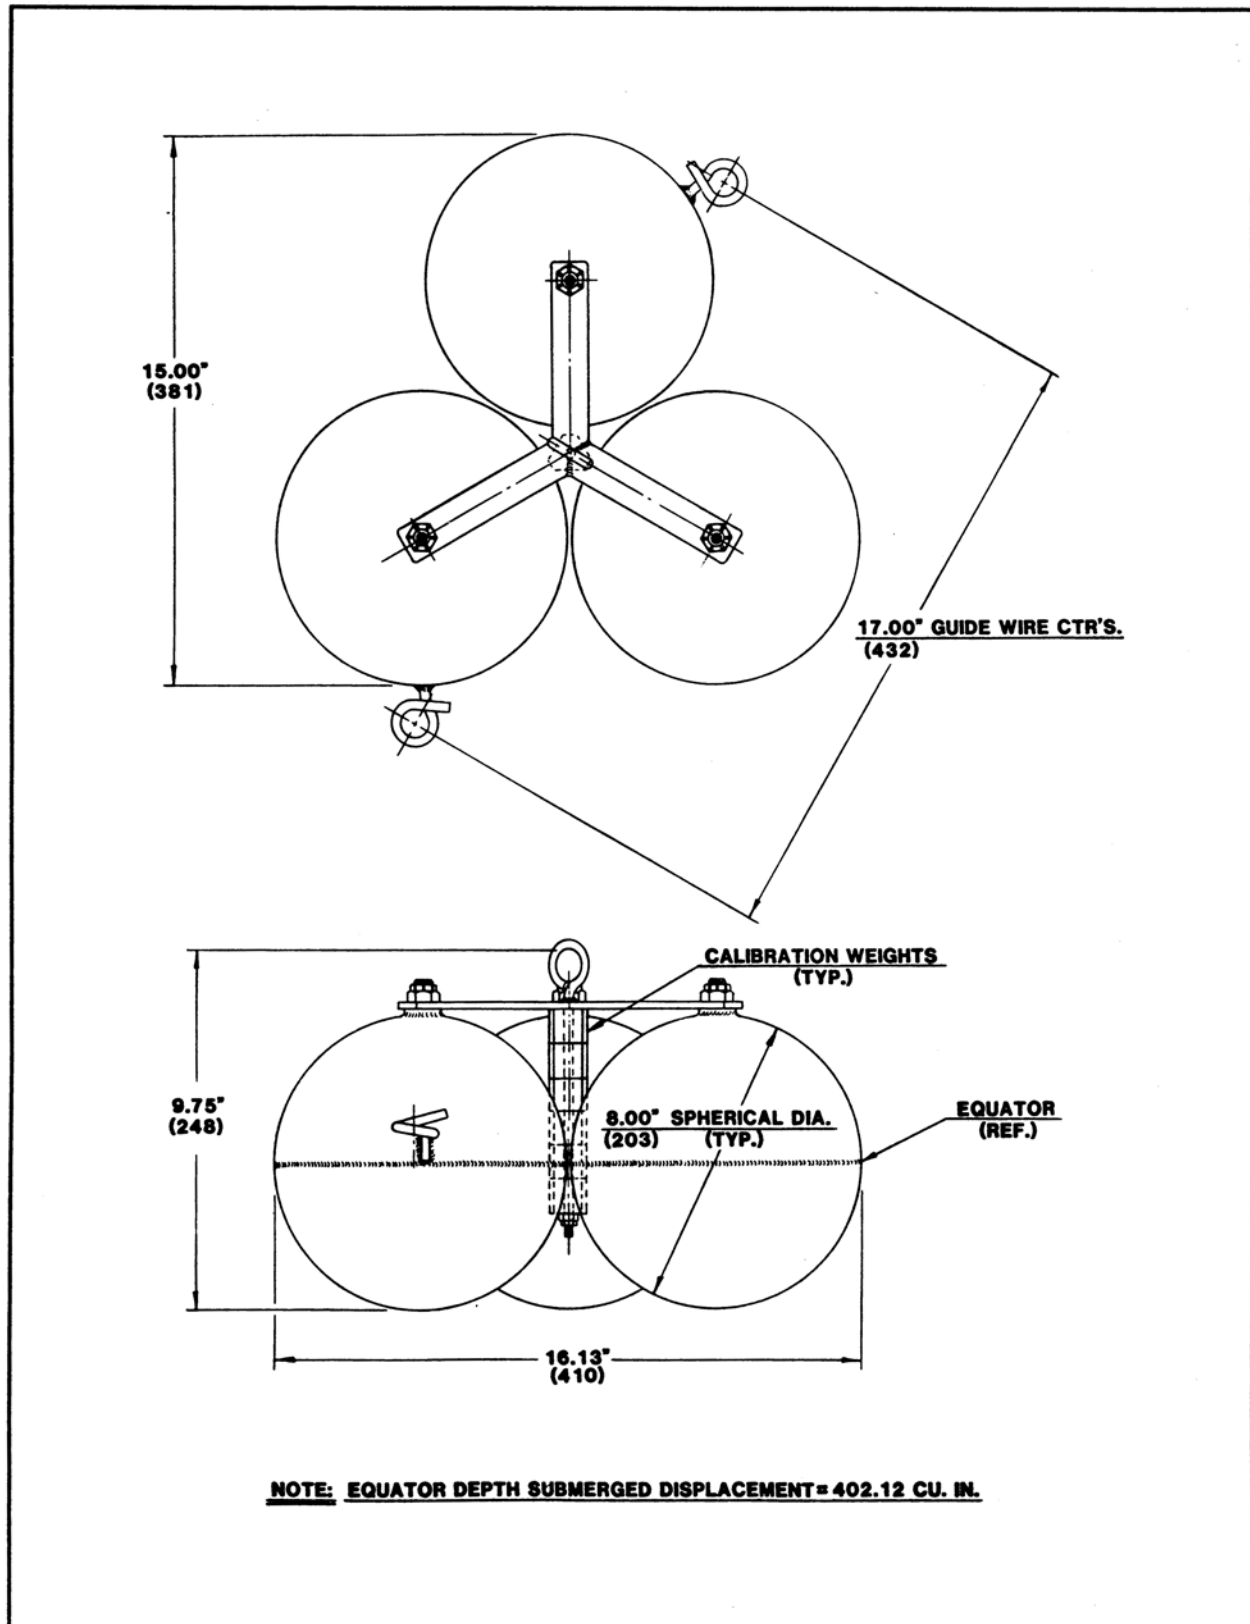

Figure 3-4: Float Cluster
19. Tilt the float cluster on edge and slip the guide cables through the loops on the inside of the tank (see Figure 3-4 on page 17). Set it on the tank bottom with the tape connection up.
Figure 3-4 shows a float cluster.
These instructions apply to systems that use a float cluster. The float cluster is shipped with six weights attached (see Figure 3-4 on page 17). Table 3-3 on page 20 lists the submersion depth of the cluster for products having specific gravity ranging between .45 and .69 and the quantity of the weights that are required. Refer to the tag removed from the float cluster if this information should be needed in the future.
27. Remove the product specific gravity tag from the float cluster and save it. Attach the tape/cable to the float cluster with the furnished fastener (see Figure 3-4 on page 17). Feed the other end of the tape over the sheave in the elbow above and make sure that it is seated on the pulley.